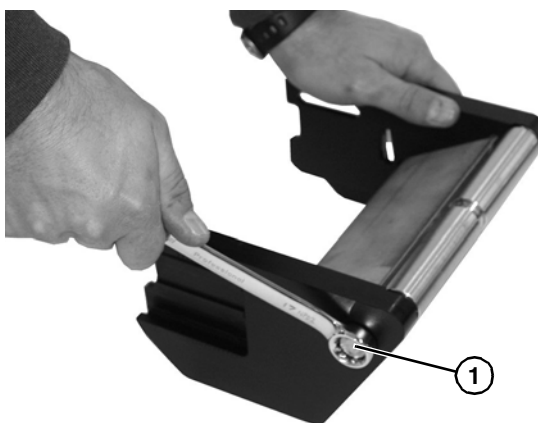

Figure 68
3. Remove head plate bolt (Figure 68, item 1) from each side.